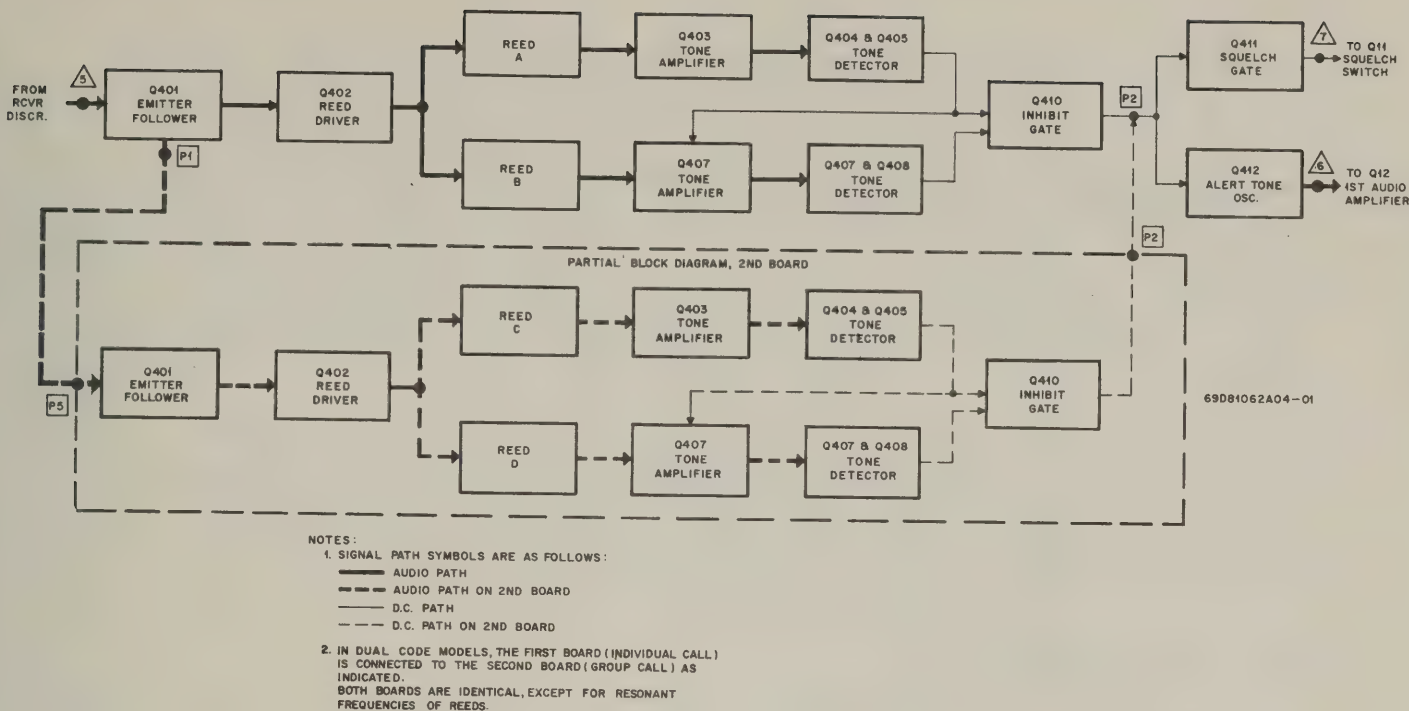

Figure 5. Selective Call Decoder Block Diagram
- (5) Selective Call Decoder Refer to Figure 5 and the Selective Call Decoder Schematic Diagram
In dual code models, the reception and detection of tones C and D are identical to that of tones A and B in single-code models. Two single code boards are connected in parallel for dual-code capability (refer to Figure 5).